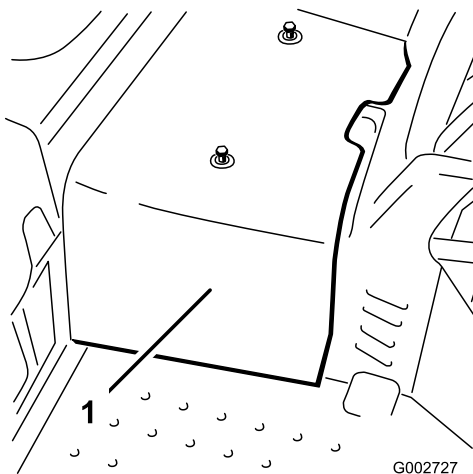

Figure 33
2. Loosen the 2 screws securing the center shroud to the machine and remove the shroud (Figure 33).